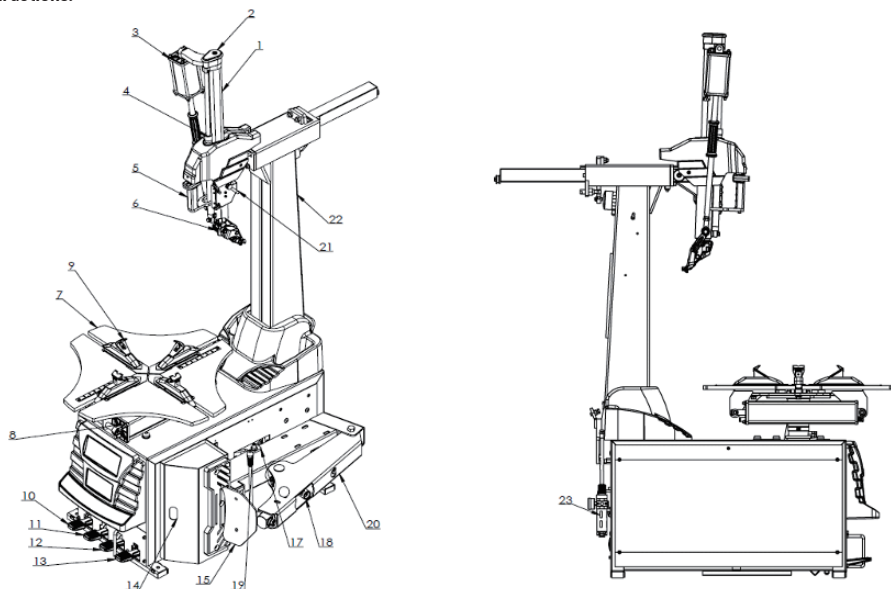

图 2-1
- When the air source is open, press the air valve locking button (n Fig. 2-1 B) to lock the push-pull arm, and depress the column tilt pedal (l Fig. 2-1 H) release the copper silencer throttle valve on the air valve and turn the throttle valve clockwise to decrease the speed, and vice versa.
- Changed, adjust the terminal block according to the electrical diagram in Chapter X. Connect the inlet of the air source triplet (Fig. 2-1 S)